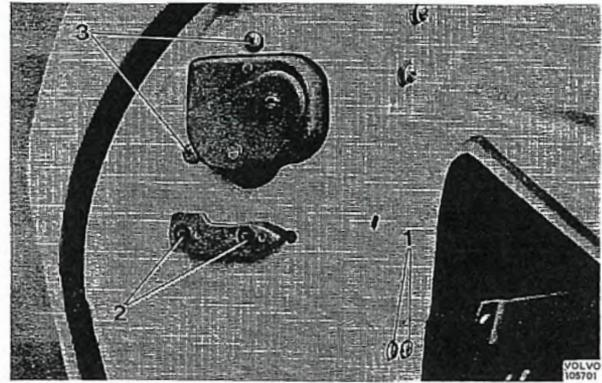

Fig. 8-17. Screws for door lock
5. Unscrew the two screws (1, Fig. 8-17) for the link arm for the remote control and the two screws (2, Fig. 8-17) which hold the guide for the lock.
6. Unscrew the remaining two screws (3, Fig. 8-17) and take the lock out through the hole in the inner plate of the door.
2. Place the lock in position in the door and fit the screws (1, 2 and 3, Fig. 8-17).